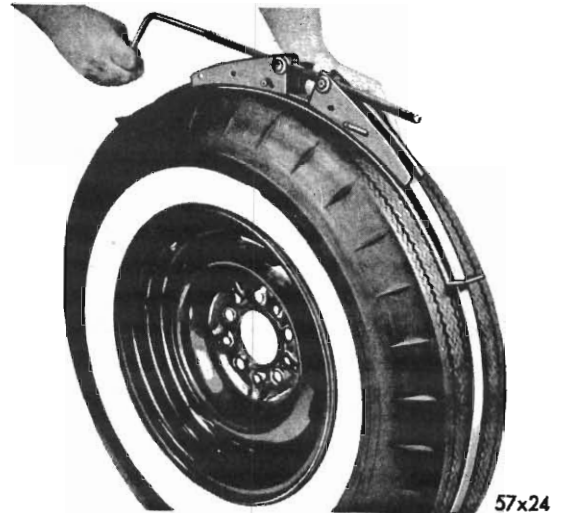

Fig. 5 - Expanding tyre beads
(1) Apply a mild soap and water solution to both tyre beads.
(2) Place the one bead over the rim of the wheel, working the entire bead into the low section of the rim.
(3) Place the other bead over the wheel rim and work the entire bead into the low section of the rim.
(4) Whilst applying air through the valve stem, strike the tread sharply with a rubber hammer to force both beads outwards over the raised rim section. It may be necessary to use a bead expander (see Fig. 5) or a rope tourniquet (see Fig. 6).
(5) When both tyre beads are fully seated, adjust air pressure to specifications.